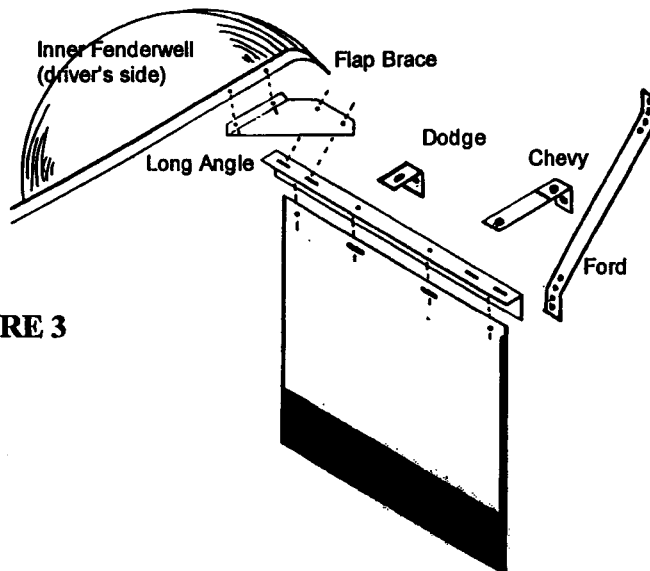

FIGURE 3
SEE FIGURE 3
STEP 5: Position mud flap assembly into the fender well and drill two 1/4" holes through the inner fender well lip. Install hex head bolts, lock washers, and nuts. **SEE FIGURE 3**
STEP 6: Bolt on the correct brackets to make the outer brace for your mud flap assembly. **SEE FIGURE 3**